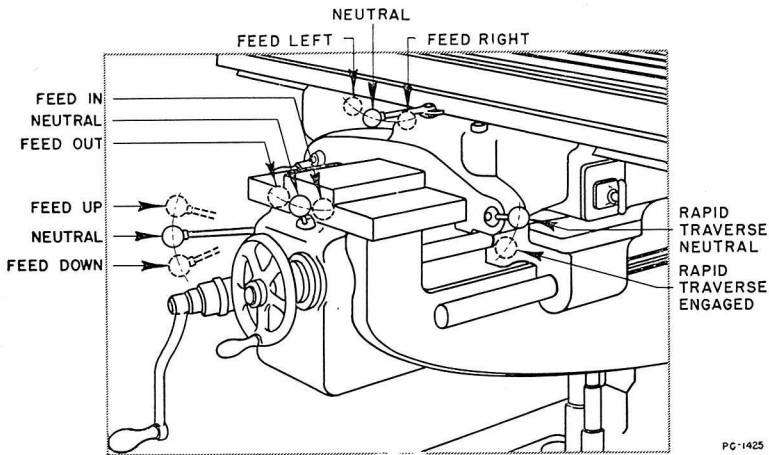

Figure 10
**Starting the Machine.** Place the cross, vertical, and table feed levers ("K", "M" and "R", respectively) in their neutral or stop positions. (Fig. 10). Start the motor. *Note*—The hinged belt guard cover at the rear of the machine must be closed and latched before the push-button will start the motor. Push up starting lever "A" to start the rotation of the spindle. An automatic spindle brake is thrown into engagement when lever "A" is pulled down to stop the spindle.